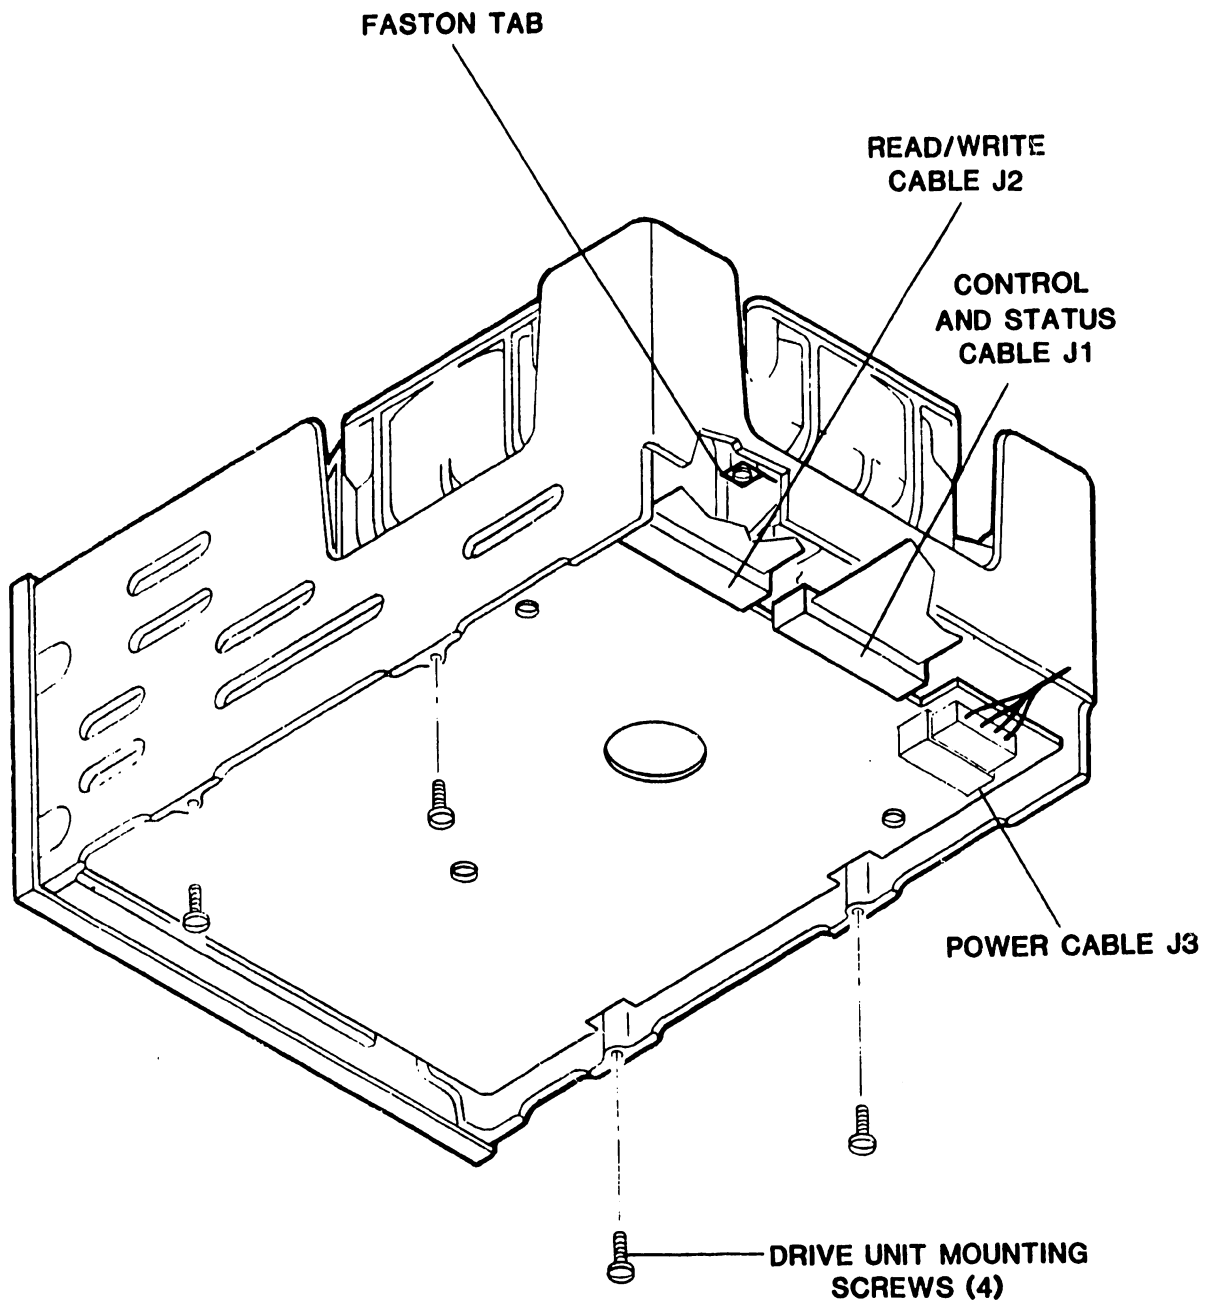

Figure 6-1. Drive Unit and Cabling Removal and Replacement
6.3.1 Pre-Maintenance Requirements (Figure 6-1)